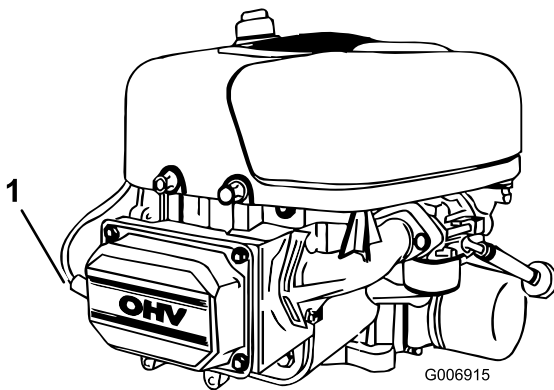

Figure 23
5. Disconnect the wire from the spark plug (Figure 23).
3. Connect the wire to the spark plug (Figure 23).